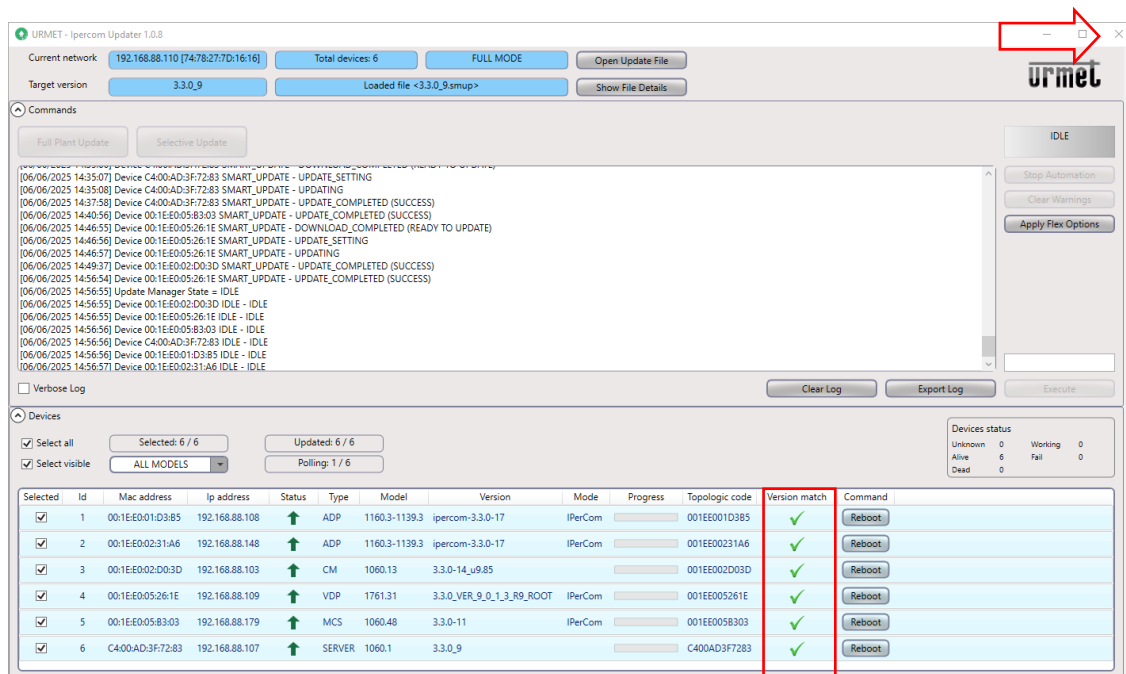

Figure 51: successful end of update
- Once the update is complete, simply close the screen using the “X” button in the top right (see red arrow in Figure 51).
The steps described in the previous paragraph can be performed in 2 different ways, both leading to the same result, that is, updating the system (as reported in Figure 51): the only thing that changes is the way the devices are updated, or more precisely, who updates them.